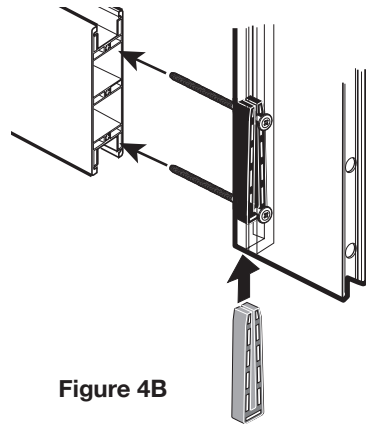

Figure 4B
Slide a reinforcement clip (D) into the channel and over the screw shafts. Place the end of the Bottom rail (C) against the screws, lining up the holes in the extrusion. See Figure 4B